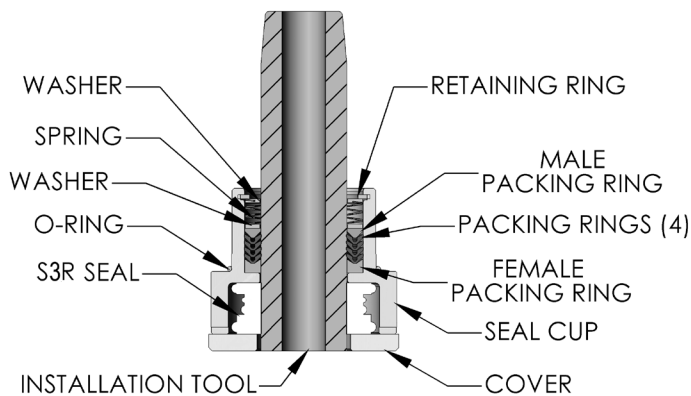

Figure 17a – Seal Cup Assembly
- Install the S3R seal in the seal cup as shown in figure 17a. Place the S3R seal on the packing installation tool in the order shown in figure 17b, with the upper segment toward the tapered end of the installation tool. Insert the installation tool, with the S3R seal, into the seal cup, with the tapered end toward the packing rings. Place seal cup cover on seal cup and secure with two capscrews.